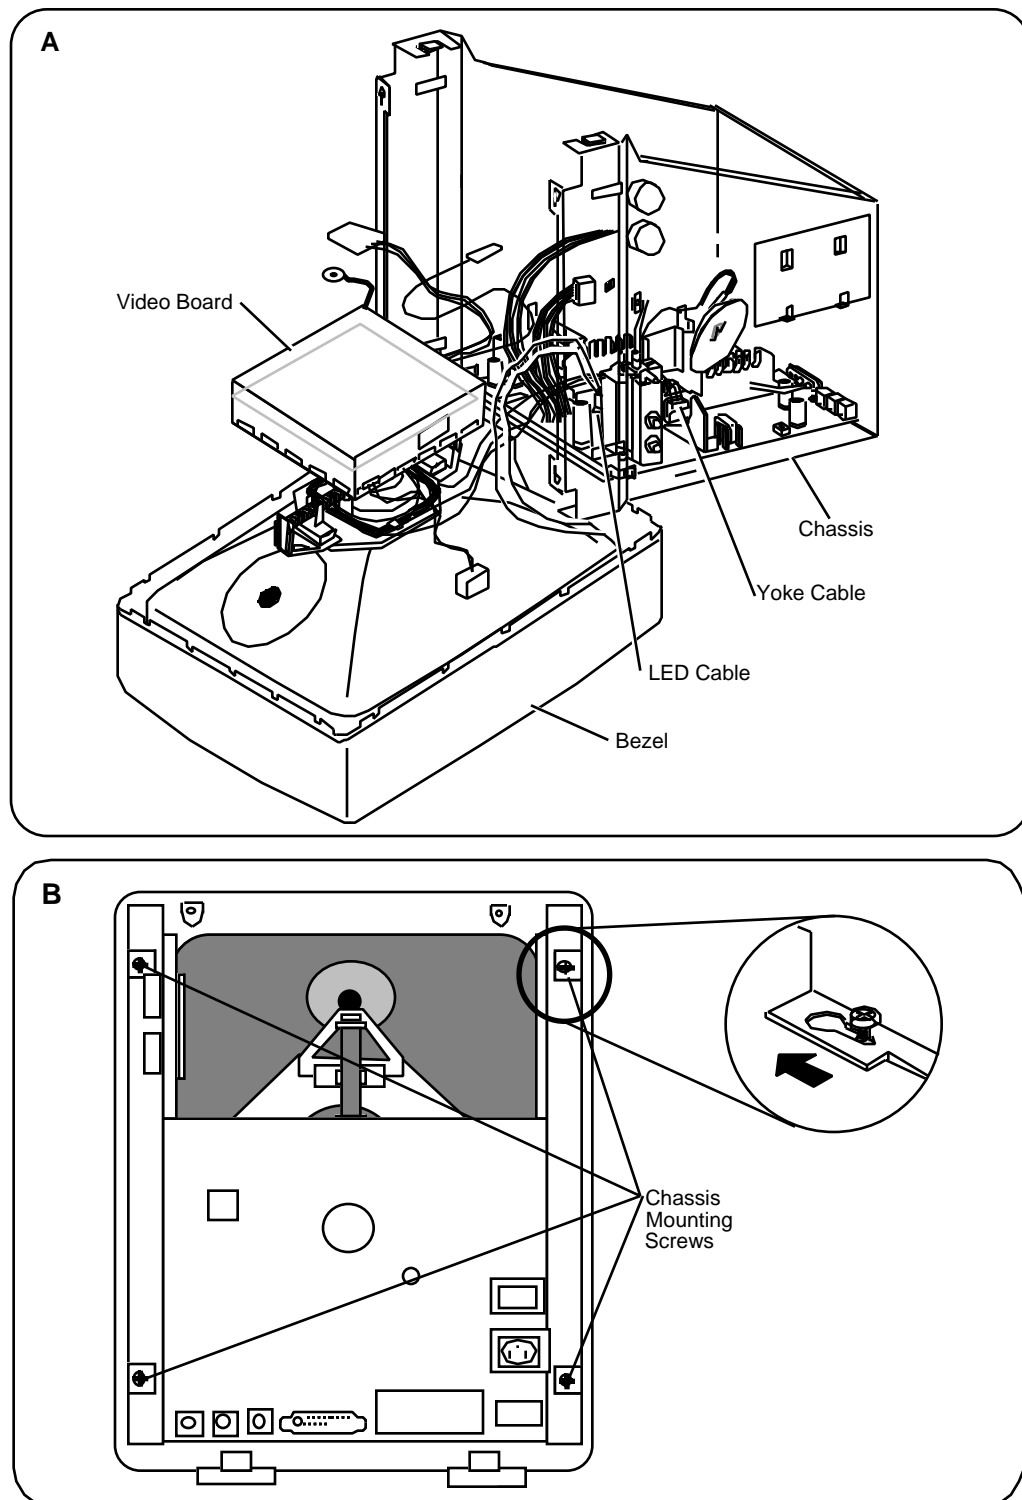

FIGURE 25
4. Replace the chassis on the bezel. To do this, refer to **Figure 25** and follow these substeps: